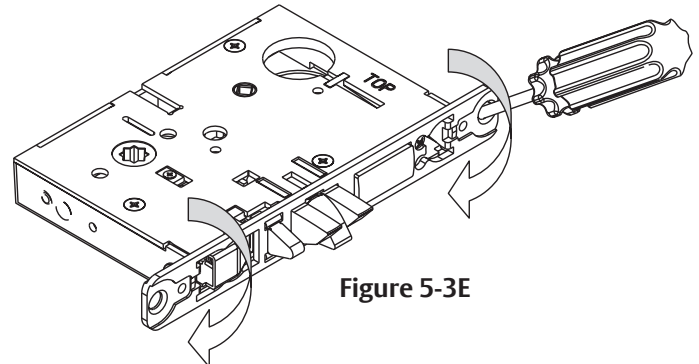

Figure 5-3E
5. Rotate lock front to match bevel of door as shown. (Figure 5-3E)